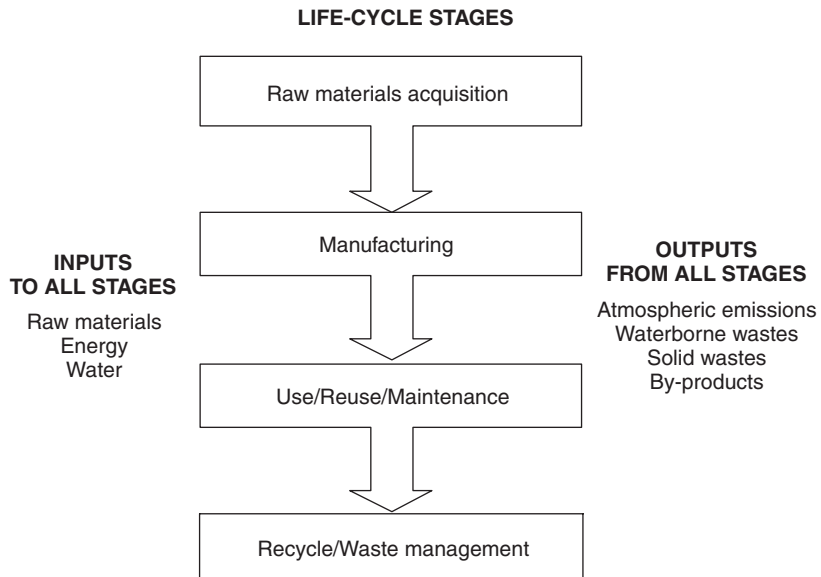

Figure 18.3
LCA allows us to study the flows of materials, energy and water throughout the life of a product (or a process such as fossil fuel combustion) as it now exists. It examines the environmental impacts at each point in its life, see Table 18.1 Once flows and impacts are understood, then both P² and DfE can more effectively come into play. LCA can be useful for examining a piece of paper, plastic bag, car, or a food item such as an apple. ▪ Look at the four life-cycle stages (Figure 18.3). (1) The impacts of acquiring the raw materials for the product. (2) The impacts of manufacturing it. (3) The impacts of using (reusing) and maintaining it. (4) The impacts of recycling or otherwise managing the product at the end of its useful life. For *each* of the four stages we analyze: